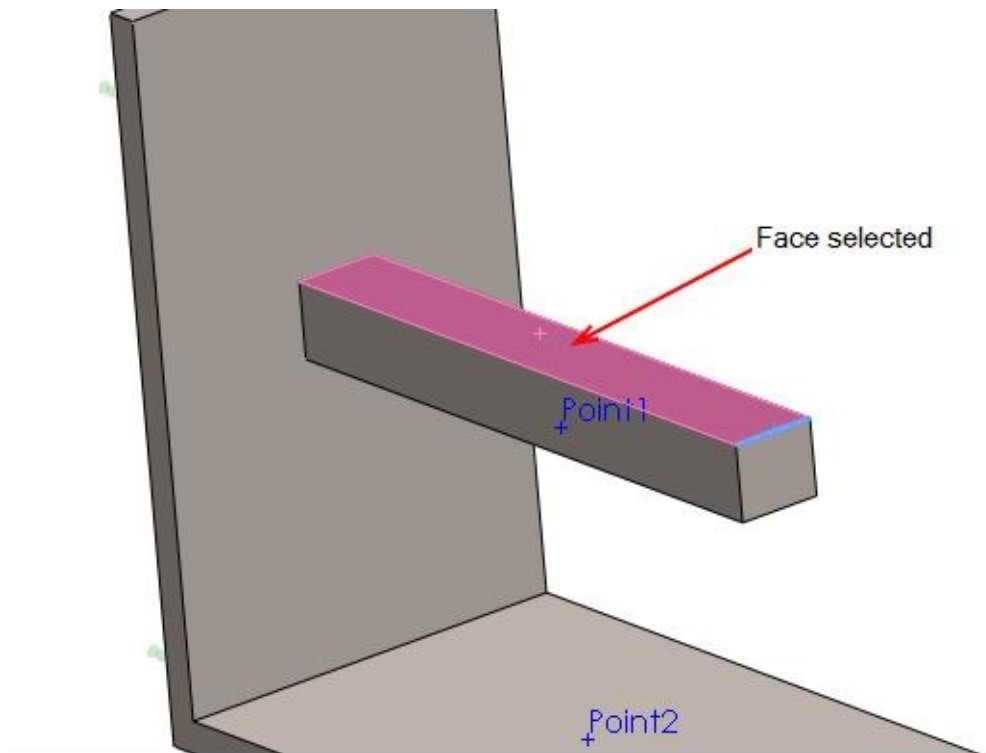

Figure-7. Face selected for force reference
- Select the top face of the model as shown in Figure-7.